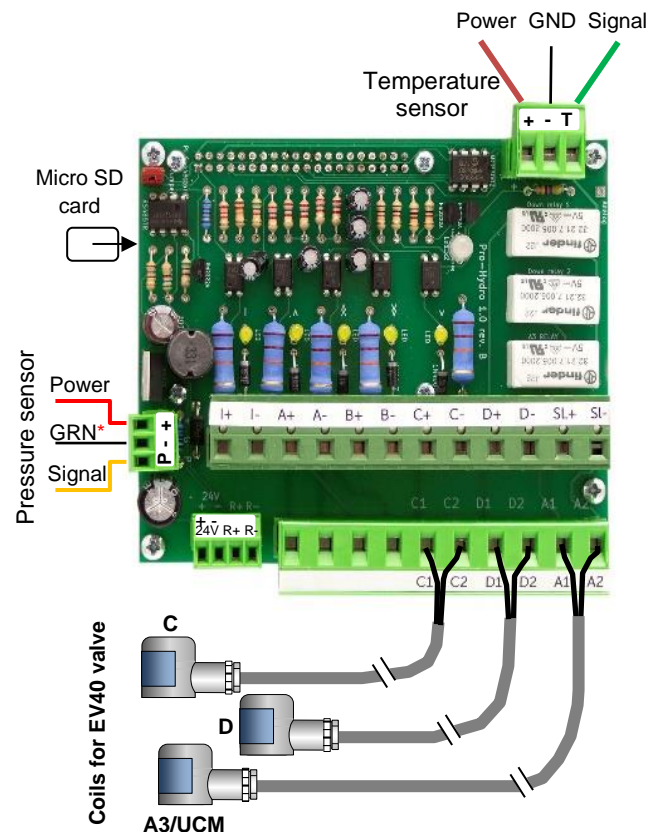

Figure 13: Pro-Hydro card wiring
3.3.4.1 Temperature sensor wiring: The top right terminals (Figure 13) are used for the temperature sensor. Temperature sensor should be dipped in the tank below the oil level and should not be in contact with any equipment and the walls of the tank.
3.3.4.2 Pressure sensor wiring: The down-left terminals (Figure 13) are used for the pressure sensor.
3.3.4.3 Solenoid coil wiring: The coils on the EV40 valve are connected to the lower terminals as shown in Figure 13.